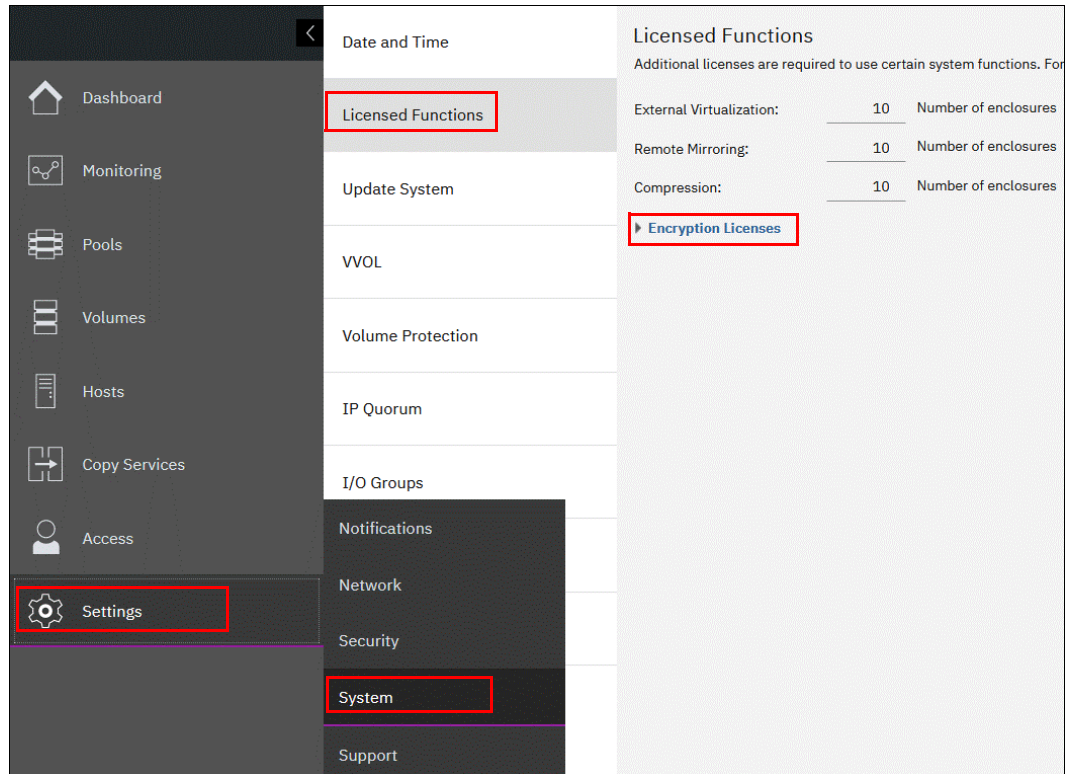

Figure 12-9 Expanding the Encryption Licenses section on the Licensed Functions window
2. Click **Encryption Licenses**, as shown in Figure 12-9.